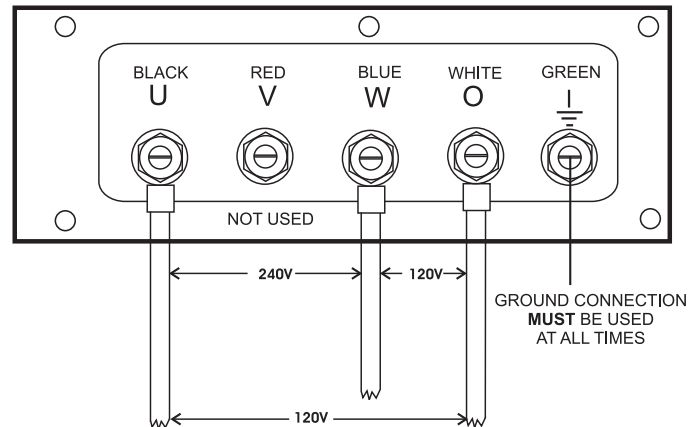

Figure 30. UVW Terminal Lugs 1Ø-240V/120V Connections
2. Connect the load wires to the **Output Terminal Lugs** as shown in Figure 30.